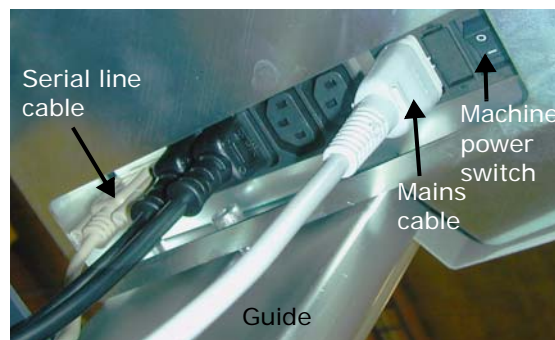

Figure 14: The sockets for COROB™ D300's cables are in a connector plate under the machine beside the left guide.
6. Place the PC (optional) behind the can table on foot of the COROB™ D300 and the monitor on the monitor rack, see figure 1 on page 2. Connect the necessary cables to the mains connecting plate that is under the machine, see figure 14.
9. Also attach the mains cable to the connector plate, see figure 14.